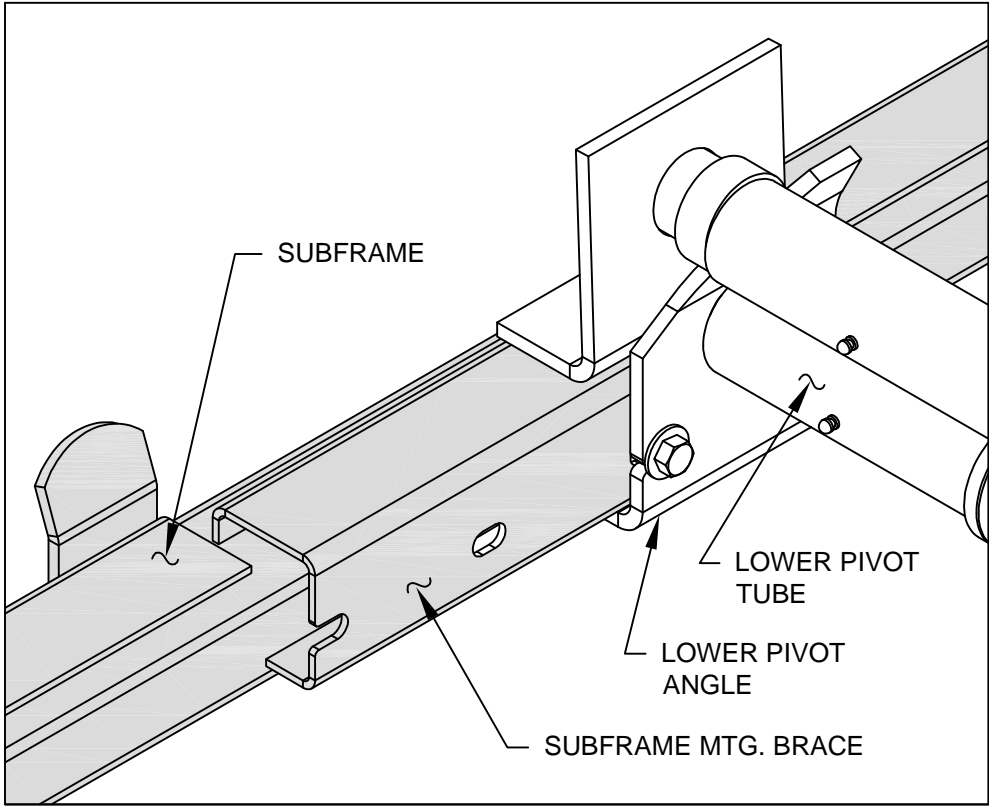

FIGURE 4a
- B. Fasten lower pivot angles to sub-frame using two [2] 1/2" x 1 1/2" hex head cap screws, lock washers, nuts, and four [4] flat washers (both sides). See DWG. 520608 Figure 4a.